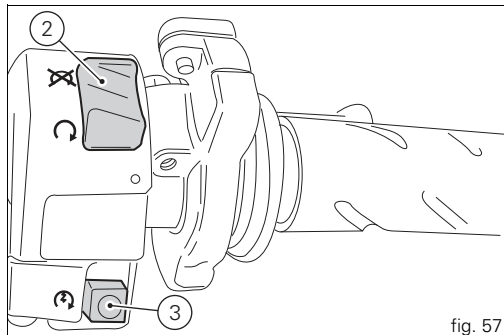

fig. 57
- 3) Check that the stop switch (2, fig. 57) is positioned to  (RUN), then press the starter button (3fig. 57).